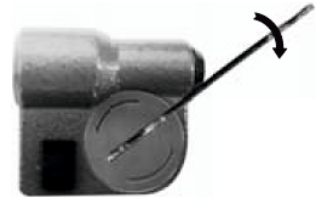

fig. 3
- » Return the battery cover back and secure it by turning clockwise (fig. 3).